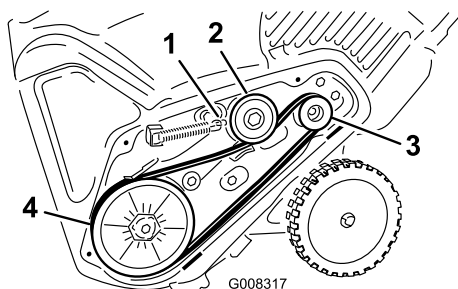

Figure 32
- Install the new drive belt, routing it as shown in Figure 32.
- Install the brake spring onto the idler arm (Figure 32).